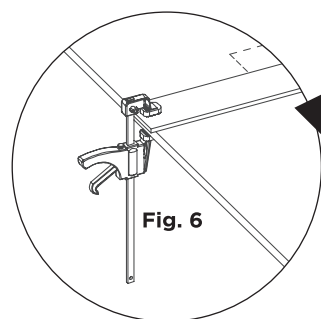

Fig. 6
4.6 Secure the cutting guides to the panel using pressure clamps (the use of a carpenter square is also recommended to ensure straight cuts). **(Fig. 6)**